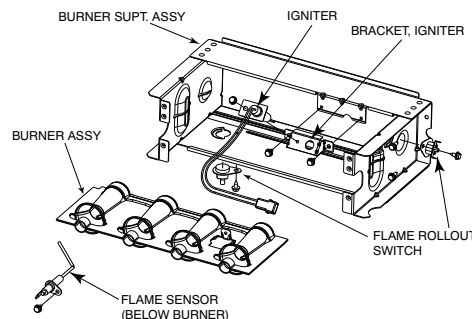
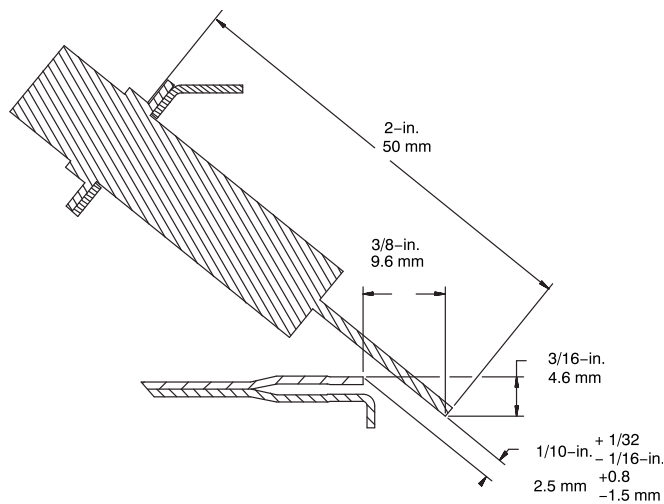

Fig. 67 – Burner Assembly
**Fig. 68 – Igniter Position - Top View**
Refer to Fig. 67.
8. Check the igniter alignment. See Fig. 68, Fig. 69 and Fig. 67.
The igniter does **NOT** require annual inspection. Check igniter resistance before removal. Refer to Fig. 68, Fig. 69 and Fig. 67.
- a. Using a 1/4-in. driver, remove the two screws securing the igniter mounting bracket to the burner assembly. See Fig. 67.
6. To replace igniter and bracket assembly, reverse items 5a through 5d.
7. Reconnect igniter harness to the igniter, dressing the igniter wires to ensure there is no tension on the igniter itself. See Fig. 67.